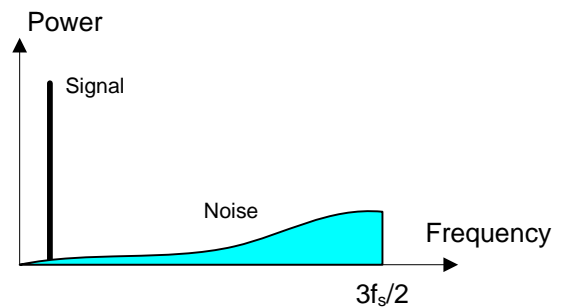

Figure 52 Noise shaping
that we filter of a large portion of the noise. For every time we increase the sampling frequency by a factor of four (4) the SQNR will increase by a factor of 6 dB which is the same as adding one bit to the word length. At the same time one can show that the sigma-delta modulation shapes the noise so that a large portion of noise will be pushed to higher frequencies. That is more of the noise will be moved to the frequency band that is filtered off in the down-sampling process and the gain in SQNR will be greater than stated above, *Figure 52*.